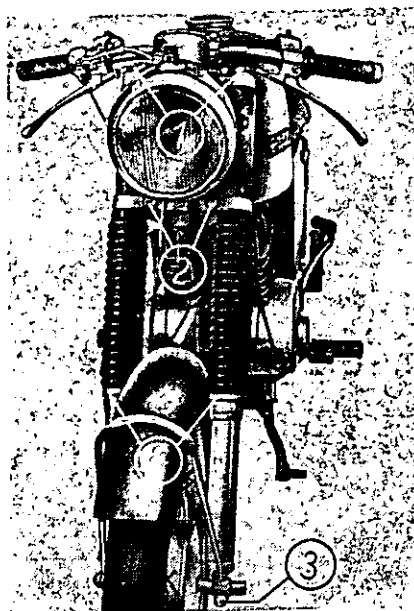

Fig. 18
The use of a hand-lever press or a vice — jaws of it aluminium or copper covered — is advised to fit the seal. Before fitting — grease slightly. For correct assembly see Fig. 18, item 8—10.